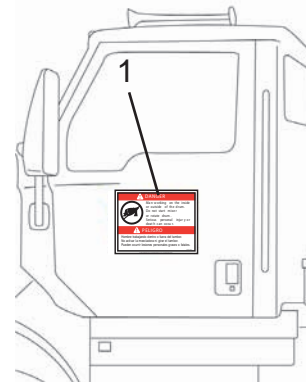

Figure 5
4. Remove magnetic “DANGER” signs (Figure 5, Item 1) from both doors.